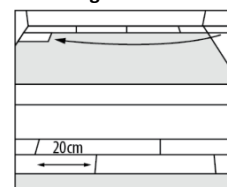

Figure 2
- Begin the second row with the cut piece from the first row (**Figure 2**). If the cut piece is shorter than 20 cm (8 in.), do not use it. Instead, begin with a new plank that is at least 20 cm in length and allows 20 cm between the end joints on the adjacent planks.